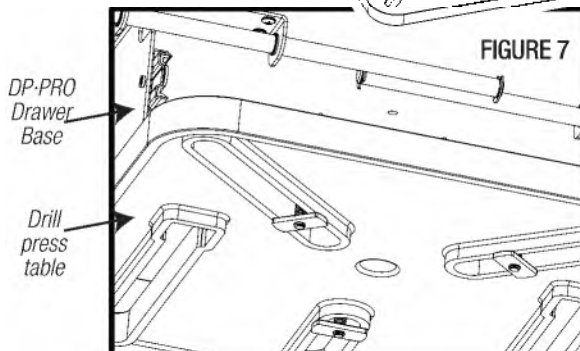

FIGURE 8
B. In drill press tables with T-slots, one size or the other should fit the slot as shown. **Figure 8/9.**